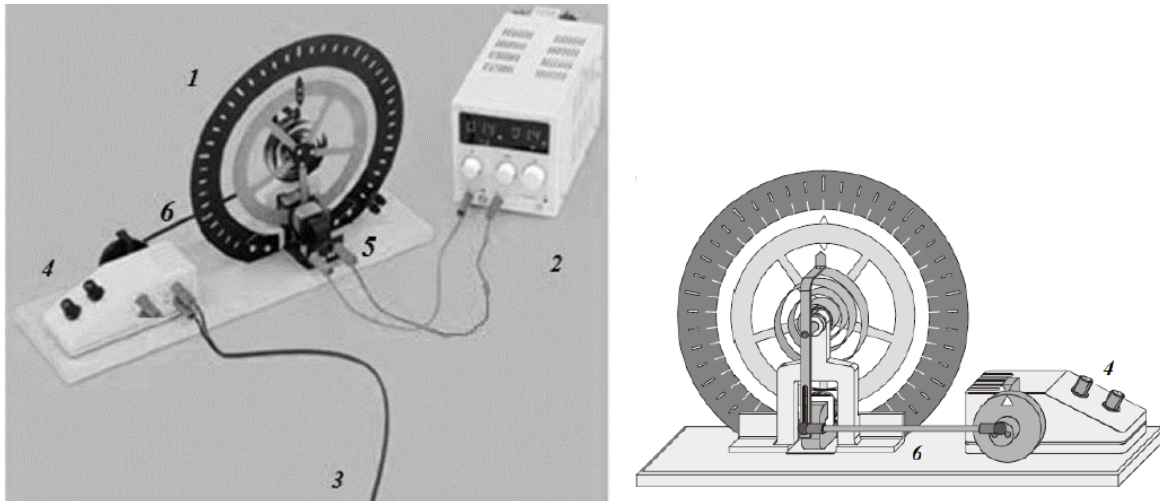

Fig. 15.2. Experimental setup
- torsion pendulum (1) with an electromagnet in the form of a coil (5) and a motor that creates a driving oscillating force (Fig. 15.2);
- direct current source of the electromagnetic coil of the torsion pendulum (2);
- power cord (3);
- direct current source for the pendulum motor (4);
- personal Computer (PC) connected with CassyLab device;
A torsion pendulum can be used to study free and forced rotational harmonic oscillations. An electromagnetic coil with current (5) slows down (dampens) these oscillations. The greater the current passing through the coil, the greater the braking effect. In addition, the torsion pendulum can be excited by an oscillating force through an eccentric rod (6) (Fig. 15.2) controlled by a motor. The speed of the eccentric thrust of the motor can be changed using two knobs: coarse and fine adjustment (4).